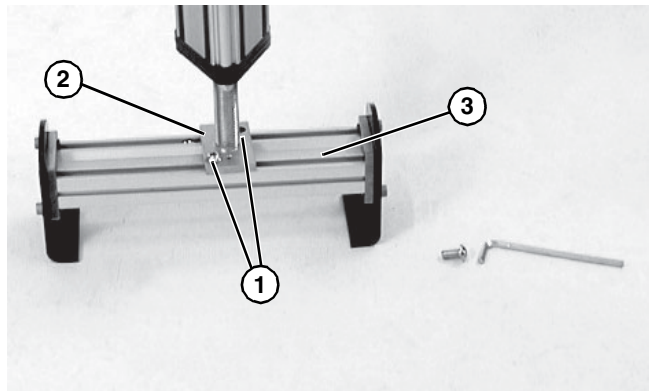

Figure 8
- Align the screw holes (**Figure 8, item 1**) of the stand top screw end plate (**Figure 8, item 2**) with the hex nuts in the t-slots in the crossmember tube (**Figure 8, item 3**).
- To center the conveyor mounting bracket (**Figure 8, item 3**), position the “Attach Here” sticker (**Figure 9, item 1**) with the end plate (**Figure 9, item 2**) of the stand top screw assembly.